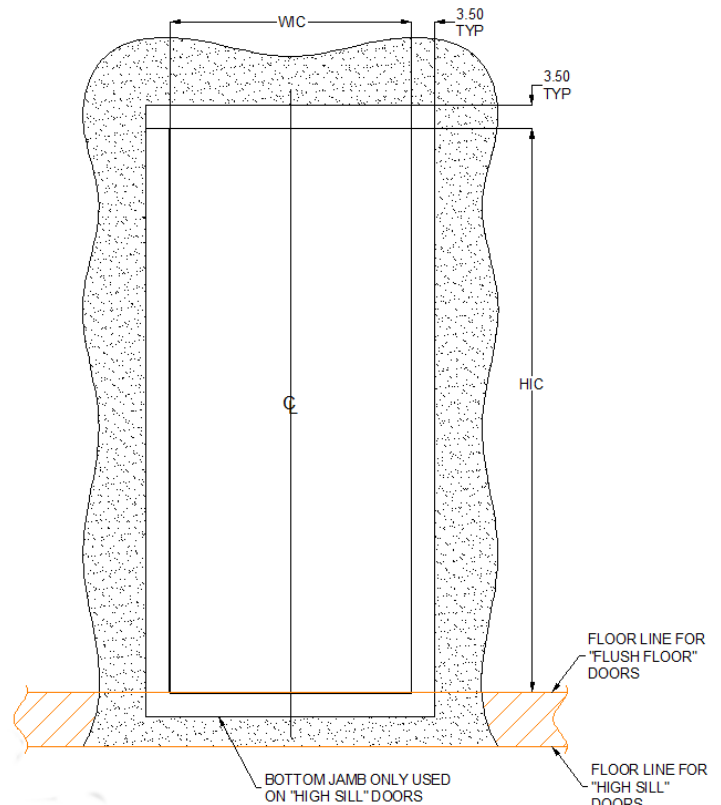

Figure 4: Jamb Dimensions
3. Refer to figures 4, 5, & 6 when installing door & frame. Holes are pre-drilled in frame for mounting. Move door into position on opening. Keep door frame level & shim low side of the frame per note above.